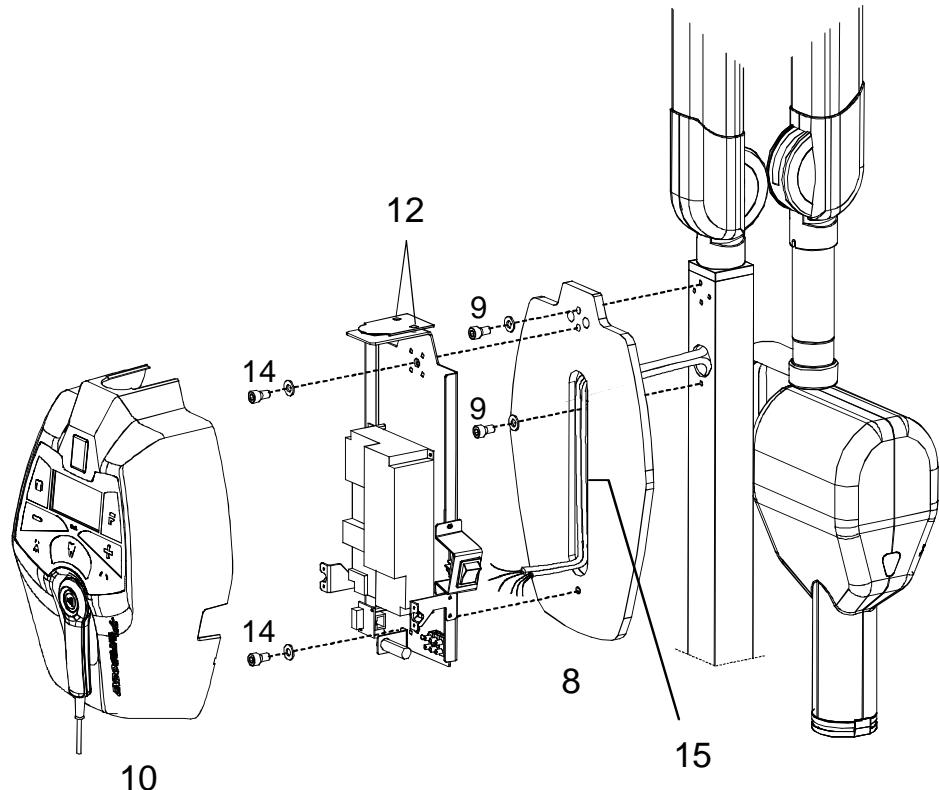

Figure 6-3
5. Assemble the timer support plate (8 - Figure 6-3) to the stand column, fixing it with the two screws (9 - Figure 6-3) present on the stand column.
6. Remove the plastic timer cover (**10** - Figure 6-3) by loosening the two sealing screws (**12** - Figure 6-3) placed on the top.
7. Fix the timer onto the support plate with the two screws (**14** - Figure 6-3) taking care to thread the supply cable and the cables coming from the scissors arm inside the hollow one (**15** - Figure 6-3). Check that the upper level is level using a bubble level.